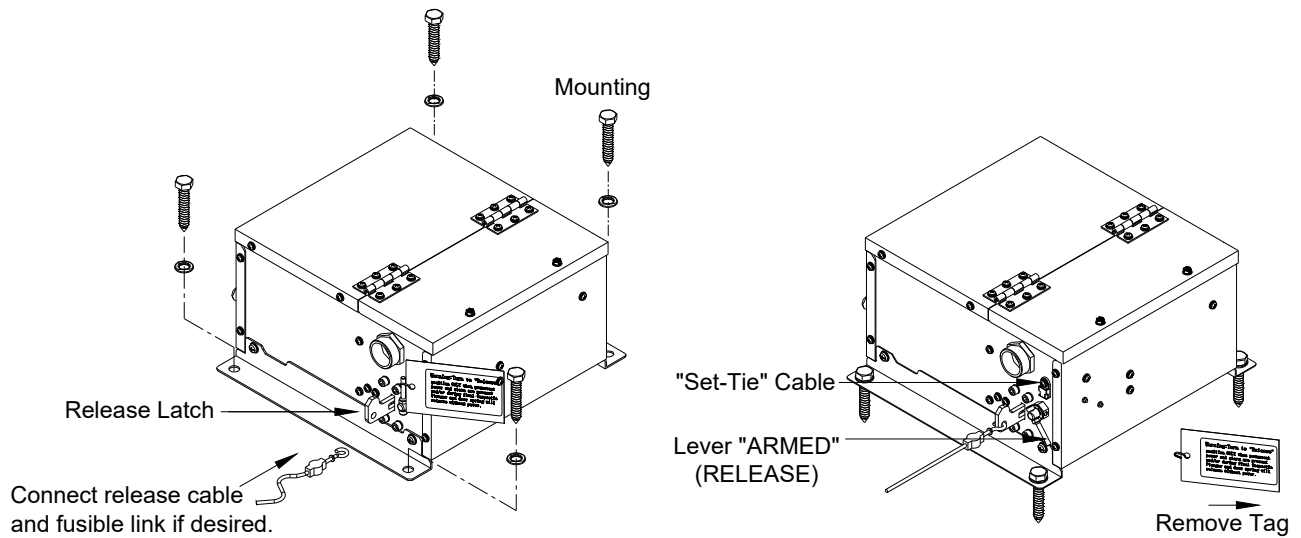

Figure 2
4. Release device and associated hardware (if required) [sash chain or 1/16 cable, eyebolts, fusible links, turnbuckles] shall be installed as per door manufacturers recommendations (figure 1 typical installation configuration). Note should be taken that the end link direction of pull is perpendicular to the enclosure side. An eyebolt installed at a distance of 18 to 24 inches from the release device should adequately redirect sash chain pull as illustrated in figure 1. Please also see figure 2 for illustration.
7. Connect release cable and fusible link (if desired) as shown in Figure 2.